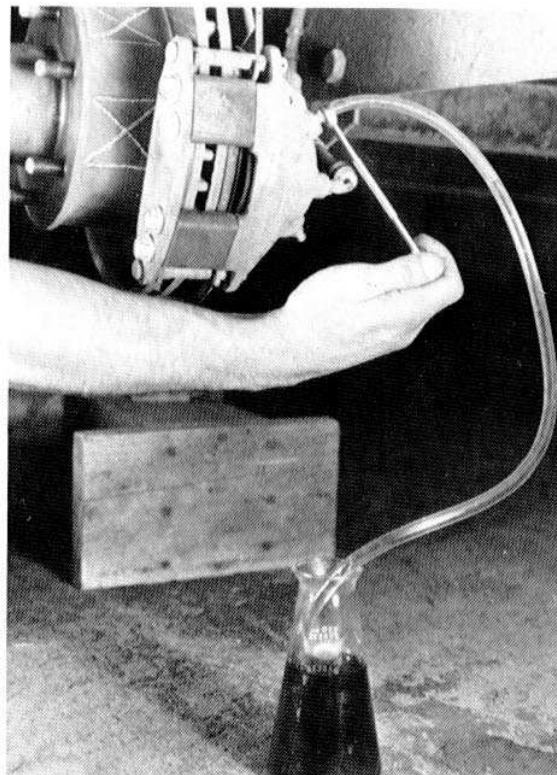

Fig. 41
16. Bleed brakes. Pressure bleeding preferred. Open upper bleeder and allow brake to fill with fluid. Let fluid run until all air bubbles have escaped and fluid runs clear. Close bleeder screw while pressure is being applied. (Fig. 41) Bleed each caliper separately. (See section on bleeding brake system)